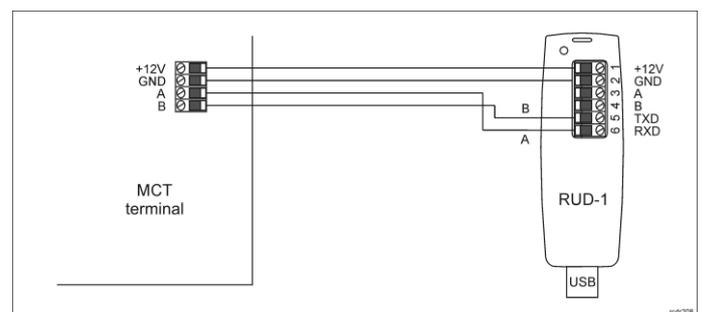

Fig. 2 Connection of MCT reader to RUD-1 interface for firmware update
The firmware of device can be changed to newer or older version. The update requires connection to computer with RUD-1 interface (fig. 2) and starting RogerVDM software. The latest firmware file is available at www.roger.pl.
1. Connect the reader to RUD-1 interface (fig. 2) and connect the RUD-1 to computer's USB port.